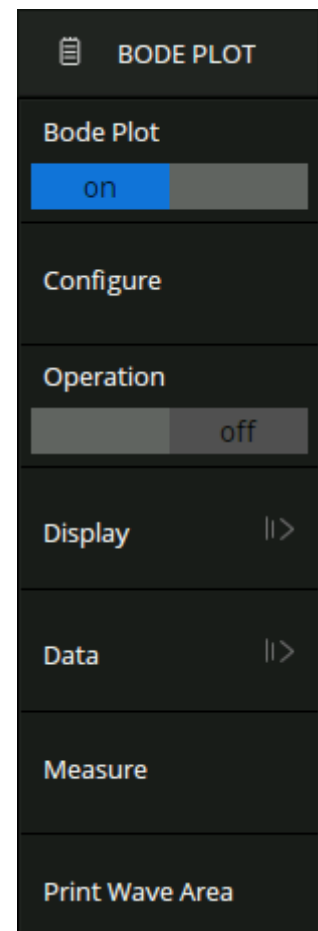

Figure 20.1 Bode Plot Menu
2. The **Bode Plot** menu shown in figure 20.1 menu will be displayed.
- Parameter measurement of scanning curve includes upper cut-off frequency (UF), lower cut-off frequency (LF), bandwidth (BW), gain margin (GM) and phase margin (PM)